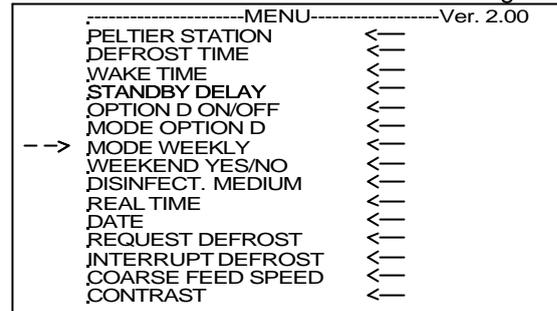

Fig. 122
- ?? Press the enter button (fig. 116.10) to select the submenu (fig. 122).